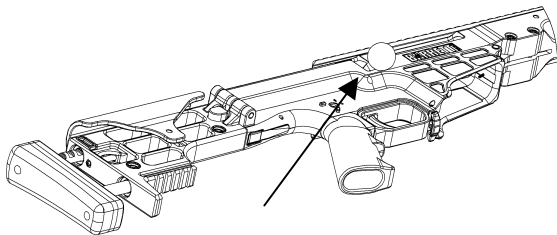

Figure 21.
7. Turn the rifle over and inspect the location of the bolt handle. The bolt handle should NOT be making contact with the receiver. If the bolt closes completely on the Field Gage, ensure the barrel is properly installed. If the bolt still closes on the Field Gage, return for repair. (Figure 21.)